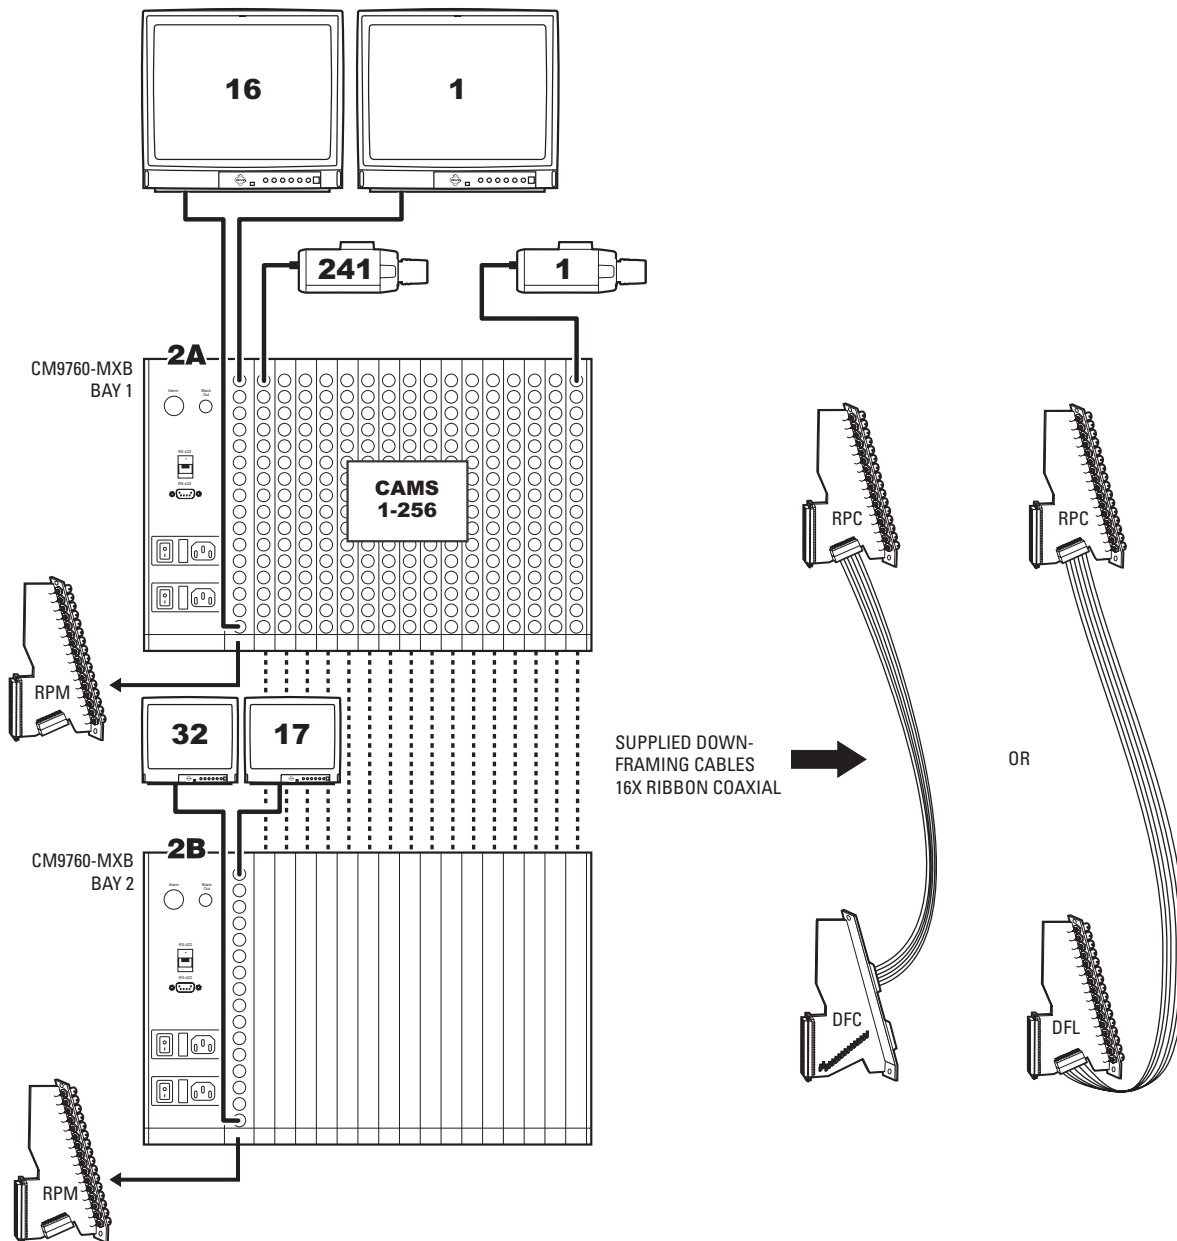

Figure 57. CM9760-MXB Downframing Example: 256 Video Inputs and 32 Video Outputs (256 x 32)
As viewed from the rear of the matrix bays, Figure 57 illustrates a sample downframe configuration containing a total of 256 video inputs and 32 video outputs. The downframe configuration illustrates downframing to one bay.
- In a new system installation, multiple matrix bays are labeled to identify the location of the downframed bays in the installation, for example, 2A, 2B, 2C, and so on. Figure 57 illustrates a two-bay configuration in which bay 2A (bay 1) is downframed to bay 2B (bay 2). For additional examples of downframe configurations, refer to *Appendix B*.